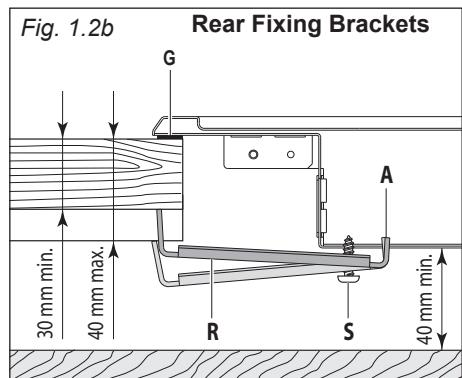

Fig. 1.2b Rear Fixing Brackets
- Fasten the brackets "F" and "R" to the appropriate socket holes, without tightening the screws "S" for the moment. Make sure that the tabs are mounted correctly, as shown (figs. 1.2b, 1.2c). Rotate the tabs so that the cooktop can be put into the cutout.
- Put the brackets "F" and "R" into place; tooth "A" of the brackets should go into the hole (figs. 1.2b, 1.2c).